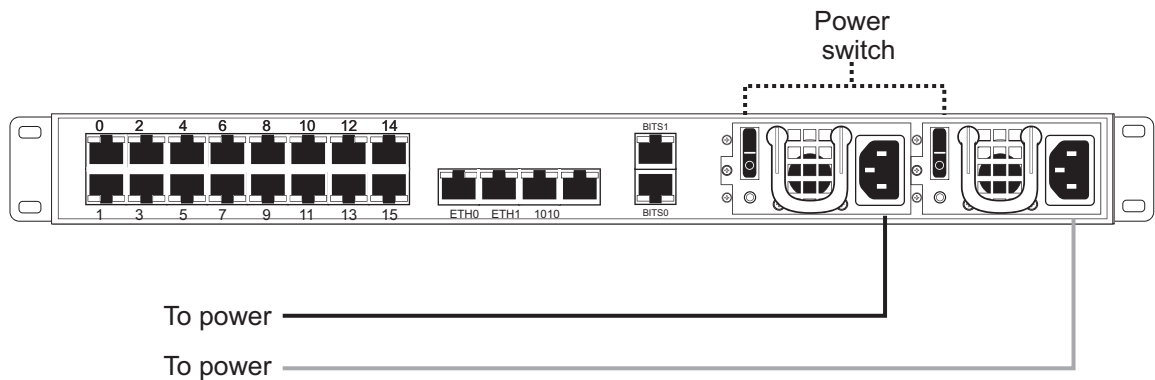

Figure 2.33 7800-TMS AC Power Connections
1. Connect the first power connector of each unit to the first power source. See Figure 2.33.